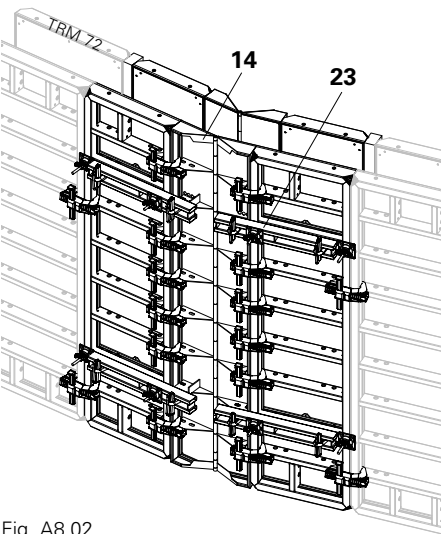

Fig. A8.02
The external formwork is stabilised with Compensation Waler TAR 85 (23). (Fig. A8.02)